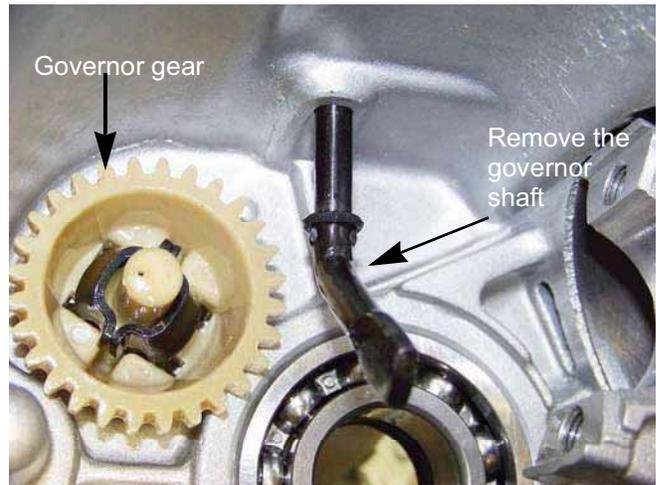

Figure 4.40
6. Slide the governor arm out of the engine block from the inside of the engine. See Figure 4.40.